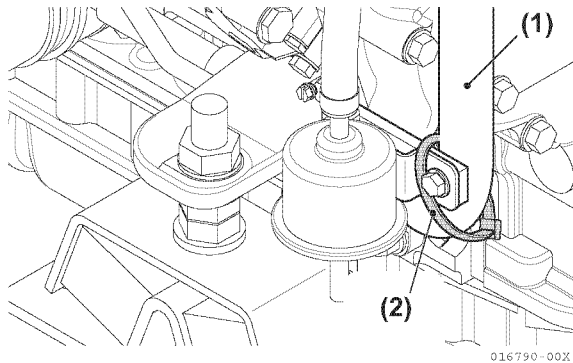

Figure 5-185
- Install the freshwater pipe; lubricating oil cooler, freshwater pump. Attach the pipe to the bracket of the feed pump by nylon band (Figure 5-185).